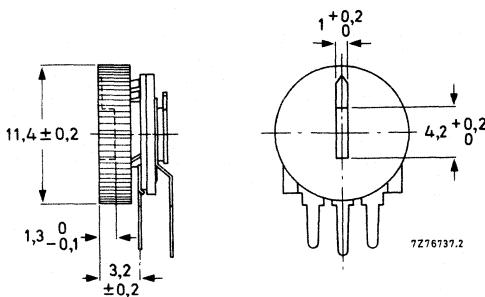

Fig. 4 Potentiometer for vertical mounting with knob 2322 410 611 ..
- 6 = with knob (Figs 4 and 6; only for 2322 410 .11.. and 2322 410 .33..)
catalogue number of knob (Figs 4 and 6): 4322 047 27740 (only for 2322 410 .11.. and 2322 410 .33..).